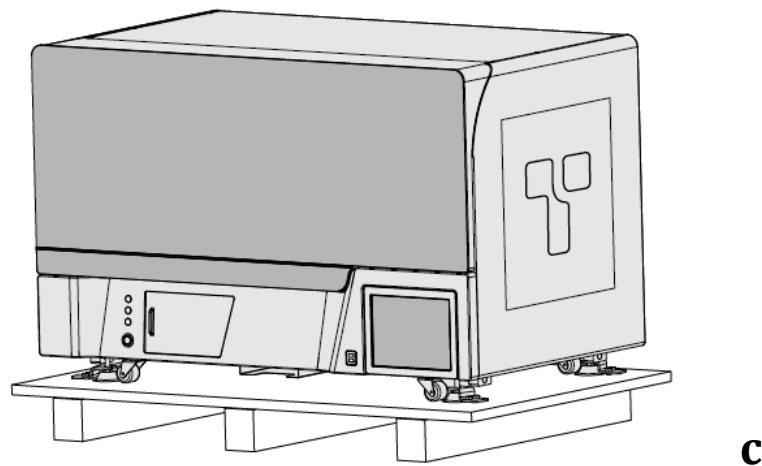

Figure 2-2c. Wooden Case Unpacking Step 3
**3rd Step:** PANA Workstation stands on the bottom support plate of the wooden case in a 4-point load-bearing state, as shown in figure 2-2c.